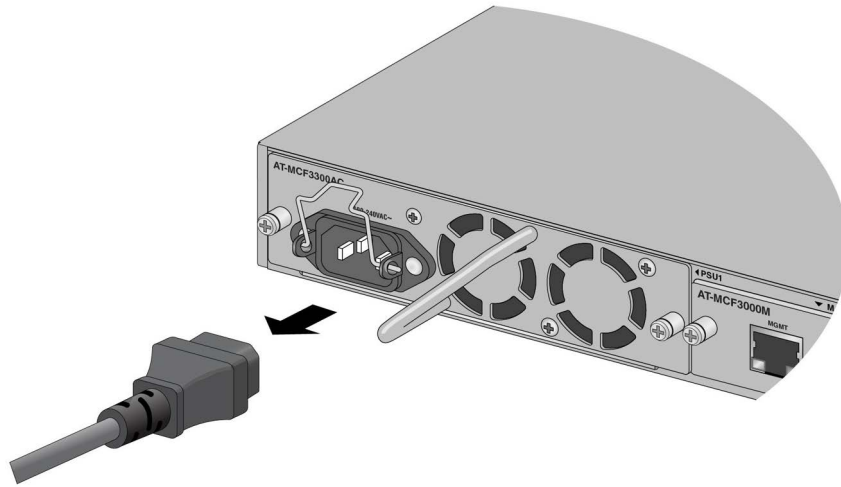

Figure 72. Disconnecting the Power Cord from the MCF3300AC Power Supply
3. Disconnect the power cord from the chassis. Refer to Figure 72.